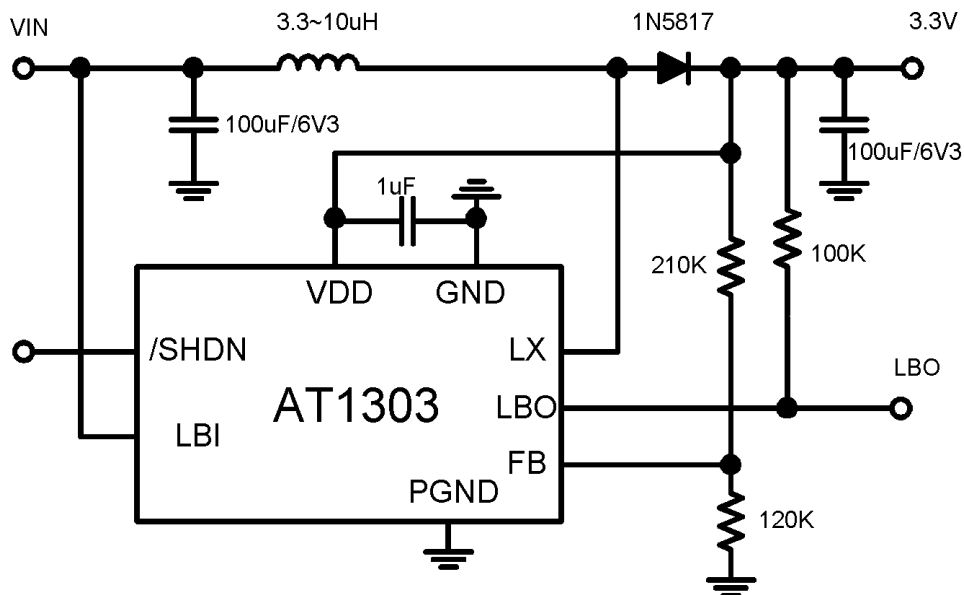
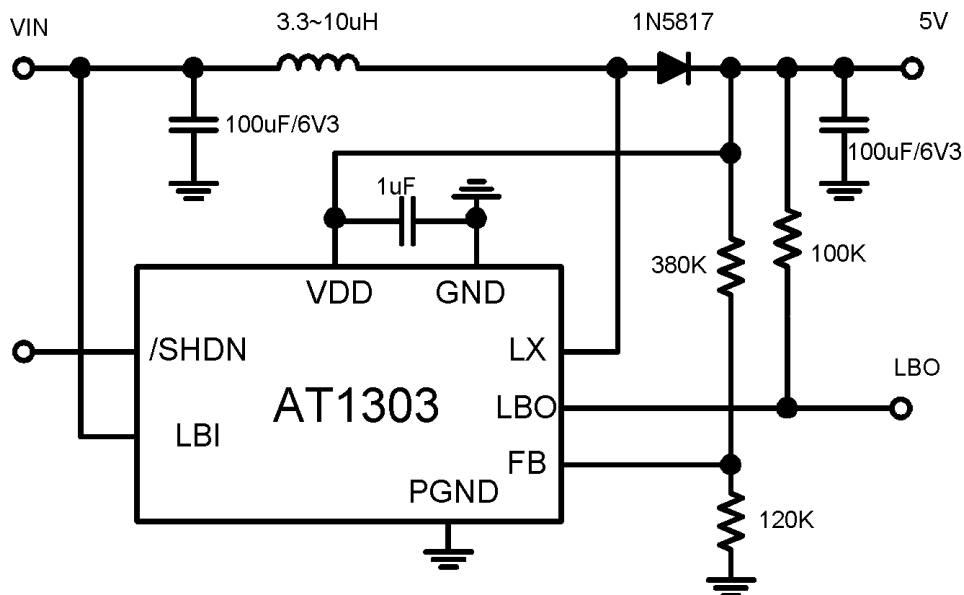

Fig. 1
Fig. 2
*Unless otherwise provided, $V_{IN} = 1.5\text{V}$ (when $V_{OUT} = 3.3\text{V}$), and use External Circuit of Typical Application (Fig 1).
Typical Curve (as Fig.1, Fig. 2)